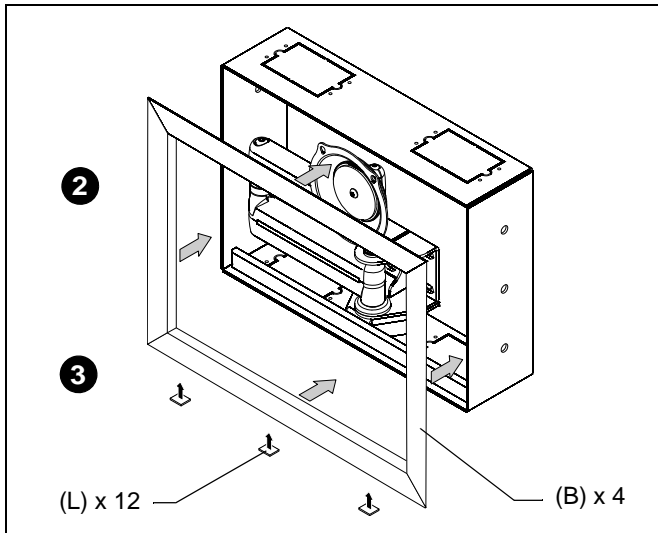

Figure 7
1. Remove paper covering adhesive and affix three tape squares (L) to inside lower flange of each trim piece (B). (See Figure 7)
2. Orient trim pieces (B) as shown in figure below. (See Figure 7)
3. Remove paper covering adhesive back from tape squares (L) on trim and press trim (B) against inner wall of box. (See Figure 7)